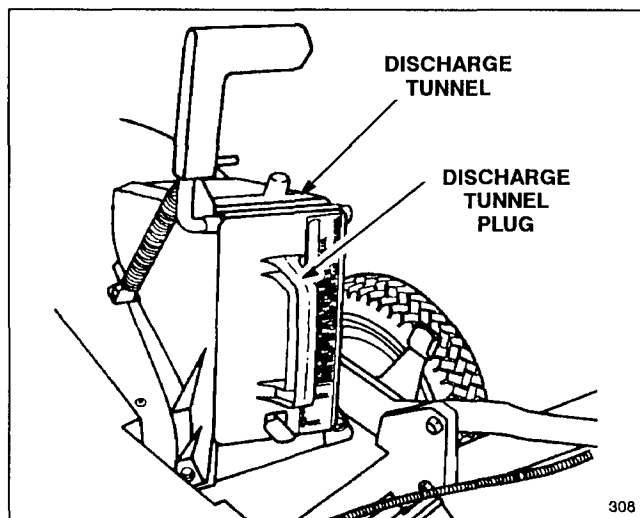

Figure 30
1. Rear Bagging Kit (Model 59174 for self-propelled models, Model 59179 for hand push models)—Install discharge tunnel and rear mounting grass bag to convert Recycler® II Super Pro® mower to a rear bagging mower (Fig. 30). Includes discharge tunnel plug.